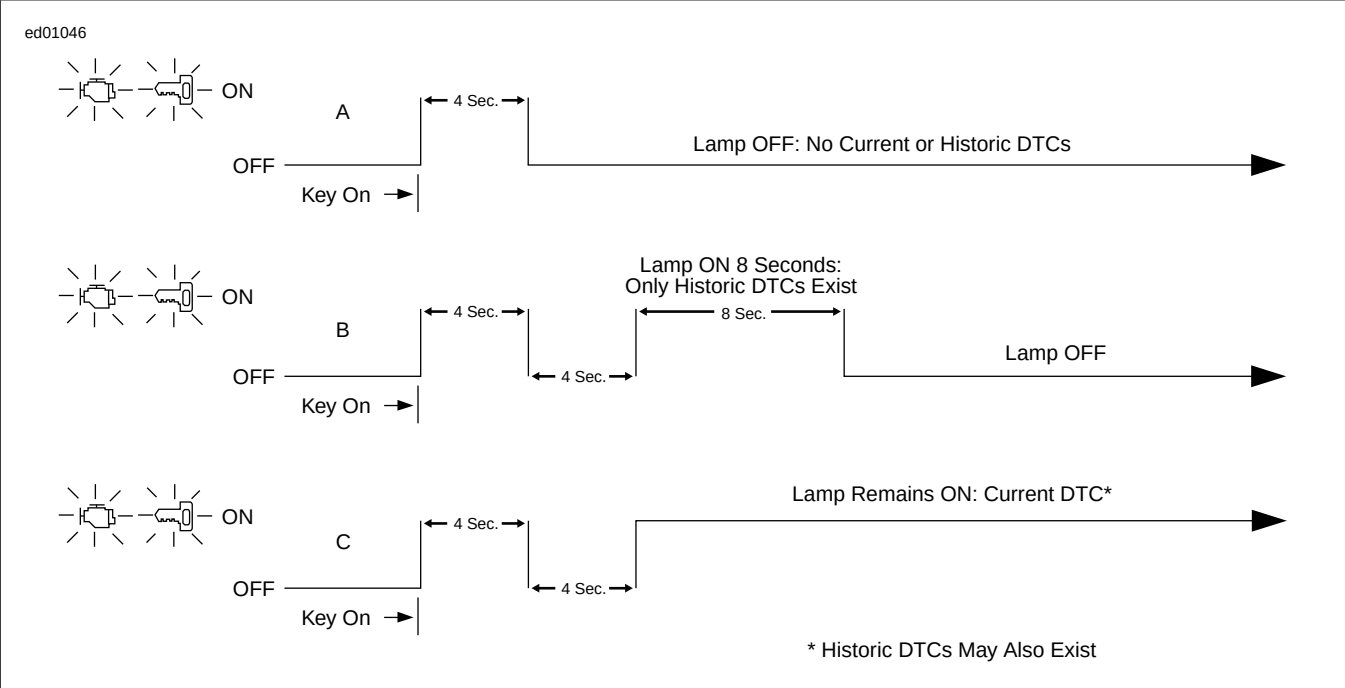

Figure E-8. Security Lamp Operation
1. See Figure E-8. After the lamp turns off after being illuminated for the first four-second period, one of three events may occur: